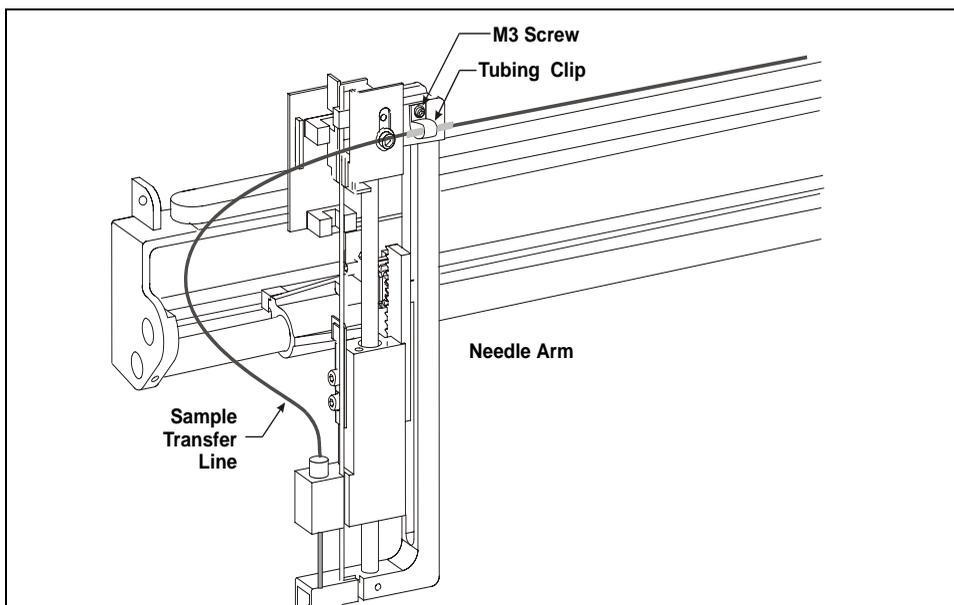

Figure 5-4. Sample Transfer Line and Tubing Clip
4. The sample transfer line tubing that connects the sampling needle to the sample syringe is clipped to the upper-right side of the needle arm (see Figure 5-4). Using a 2.5 mm Allen wrench, remove the M3 screw that attaches the clip to the sampling arm. Remove the clip and then remove the tubing from the clip.
5. Measure the distance from the yellow sleeve on the sample transfer line (see Figure 5-4) to the needle. When installing the new sample transfer line, position the sleeve on the new line the same distance from the needle.